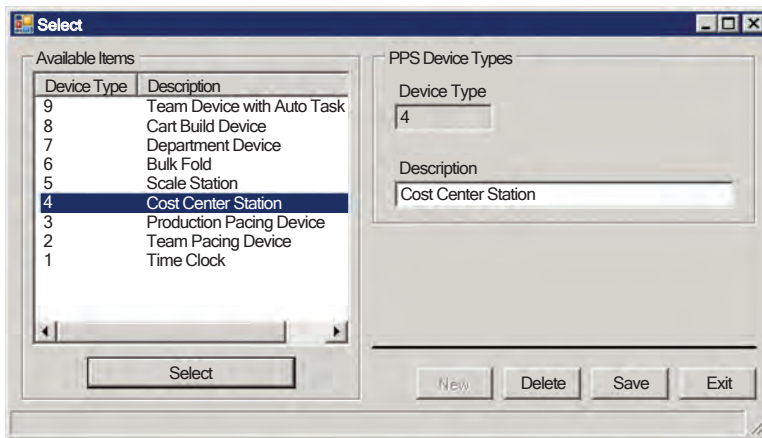

Figure 55. PPS Device Type Selection dialog.
6. Click the button **>>** to the right of **Device Type** to access the *Device Type* selection dialog (see Figure 55). For more information on the available device types see PPS Device Types on page 53.